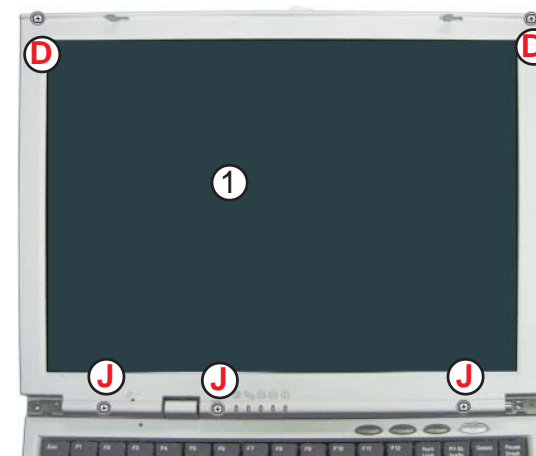

figure 2-20
1. Remove the rubber stoppers in positions D and J (figure 2-20).
2. Remove the screws (D, J) (figure 2-20).